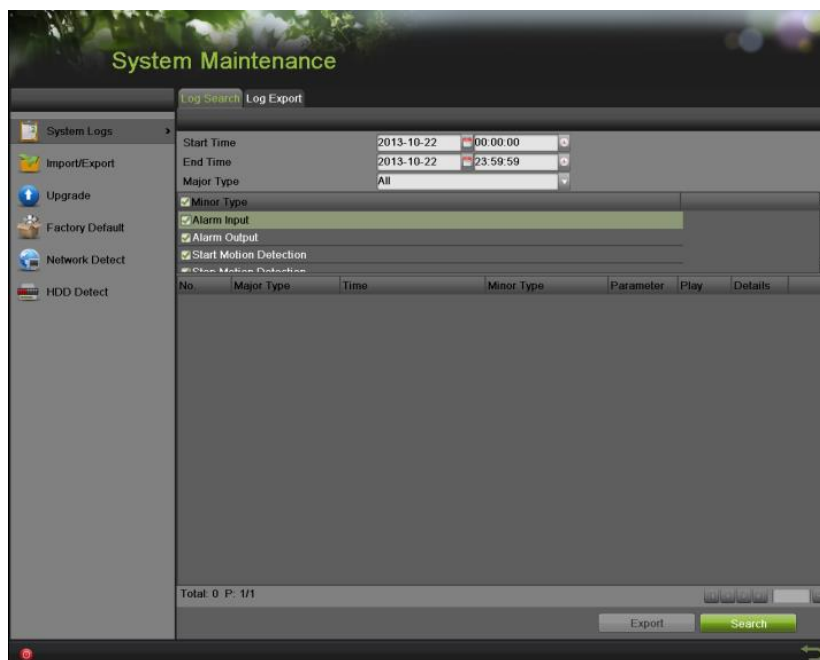

Figure 216 System Logs Menu
1. Enter the System Logs menu, shown in **Figure 216** by going to Menu > Maintenance > System Logs.